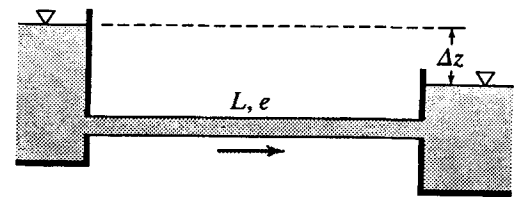

Figure P8.38
8.39 A steel pipe ($e = 0.065$ mm) 4200 m long is to convey oil ($\nu = 5.2 \times 10^{-5}$ m²/s) at 300 L/s from a reservoir with surface elevation 247 m to one with surface elevation 156 m (Fig. P8.38). Theoretically what pipe size is required?